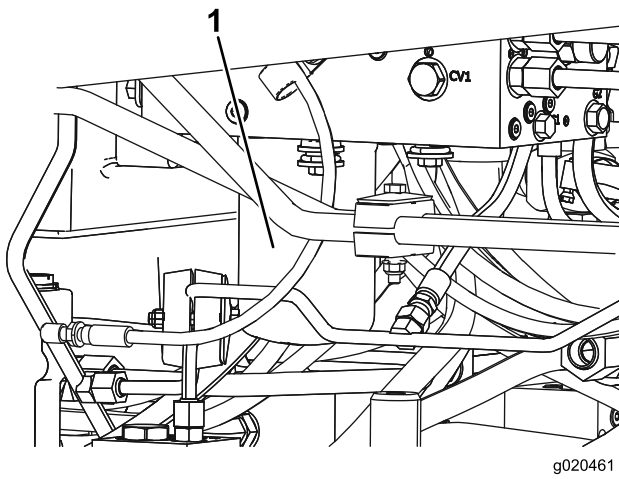

Figure 73
5. Repeat the procedure on other filter (Figure 73).